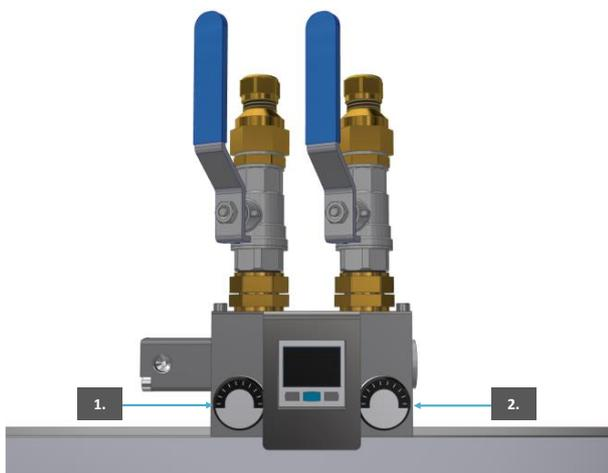

Figure 37. Pressure gauges
2. The production process starts with building pressure in one of the two PSA's. Which of the two begins is not important. One of the pressure gauges will rise, by this you can see which of the two PSA's comes at pressure first (Figure 37 no. 1 and 2).